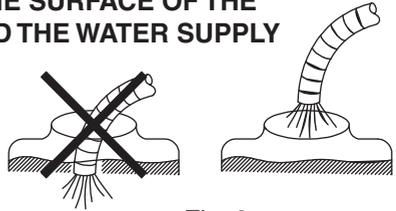

Fig. 8
**WARNING: DO NOT LET THE FILLING HOSE ENTER THE TANK. KEEP IT OUTSIDE THE TANK, POINTING TOWARDS THE FILLING HOLE (FIG. 8). IF THE END OF THE HOSE IS BENEATH THE SURFACE OF THE TANK CONTENTS AND THE WATER SUPPLY STOPS, CHEMICALS MAY BE SIPHONED BACK AND CONTAMINATE THE WATER SUPPLY SOURCE AND LINES.**